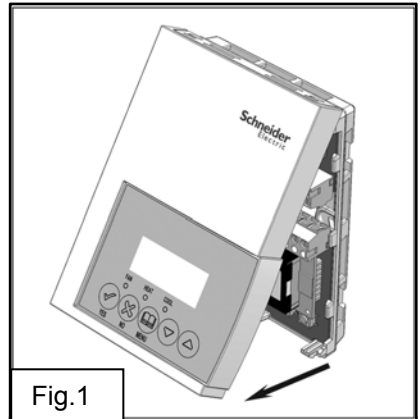

Fig.1
- Open unit by pulling on the bottom side of Terminal Equipment Controller (fig. 1).